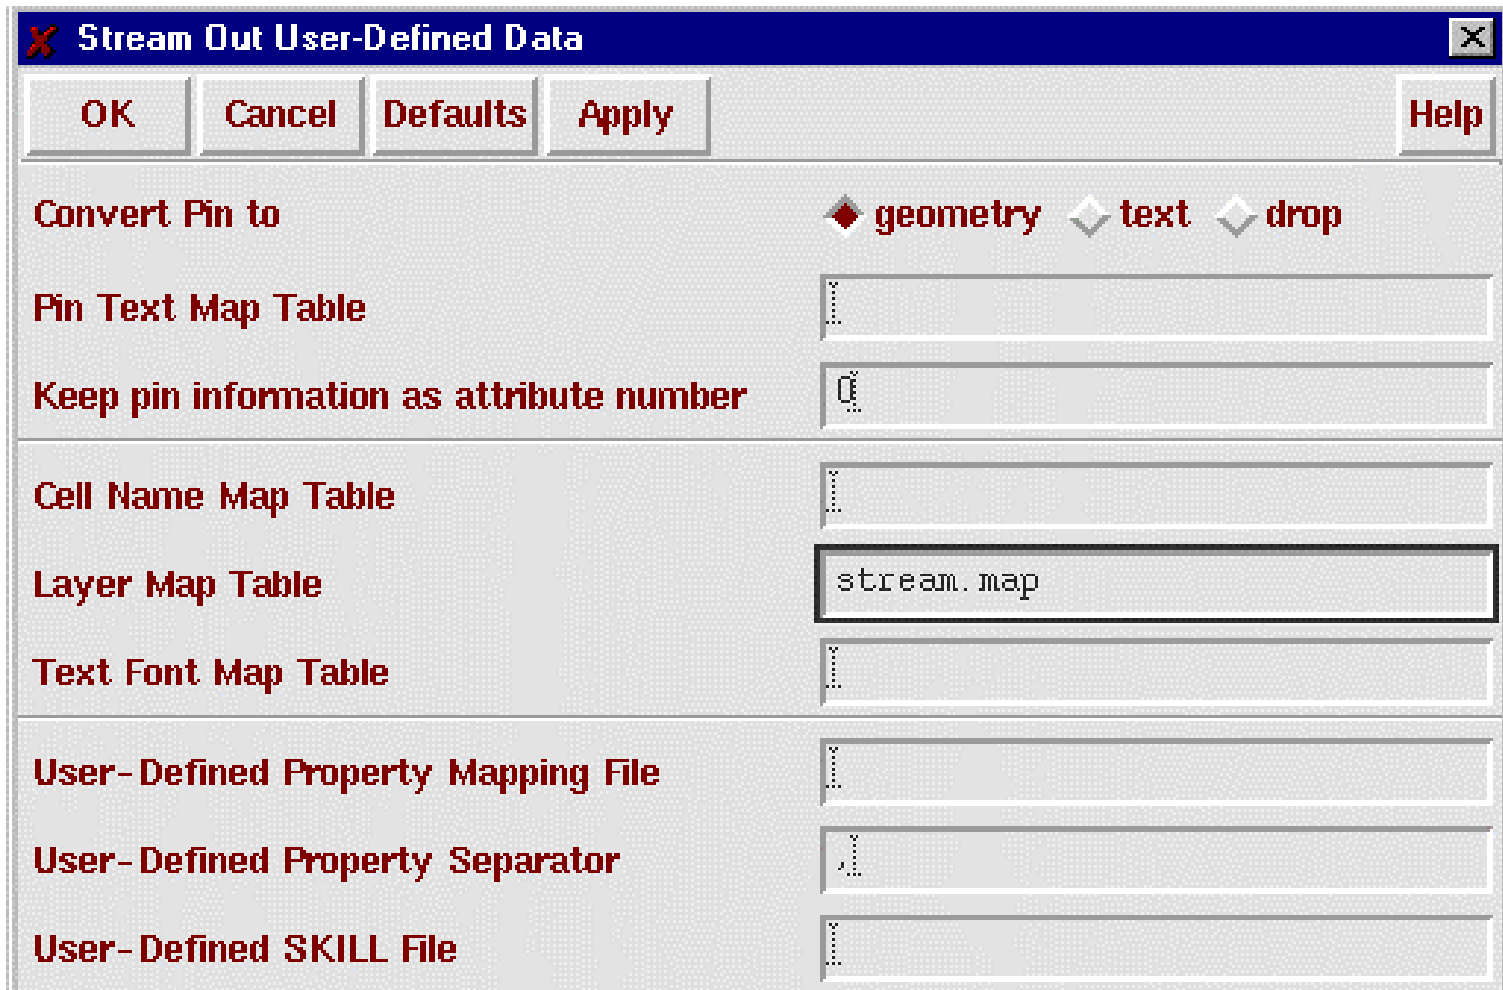

Figure 2 : Stream Out User-defined data
- Refer to Fig : 2 (next slide) for the **Stream Out User-Defined Data** form.